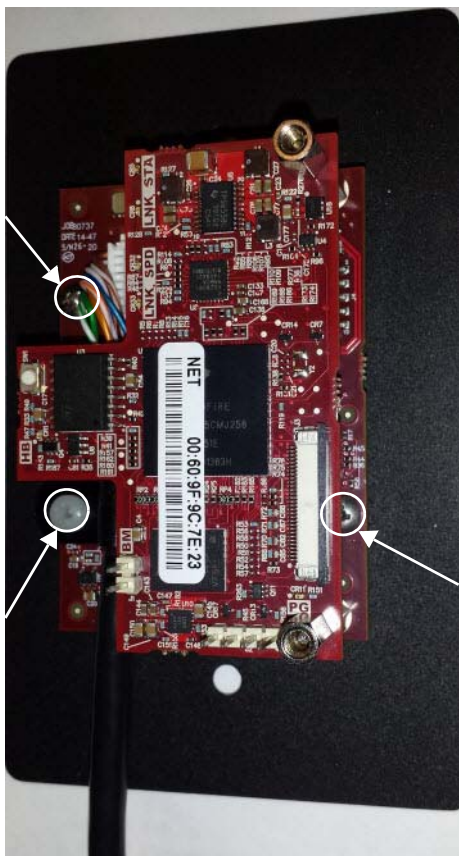

FIG. 9 Remove the three screws using a Phillips-head screwdriver
1. Use a Phillips-head screwdriver to remove the three screws that secure the circuit board to the faceplate (see FIG. 9).